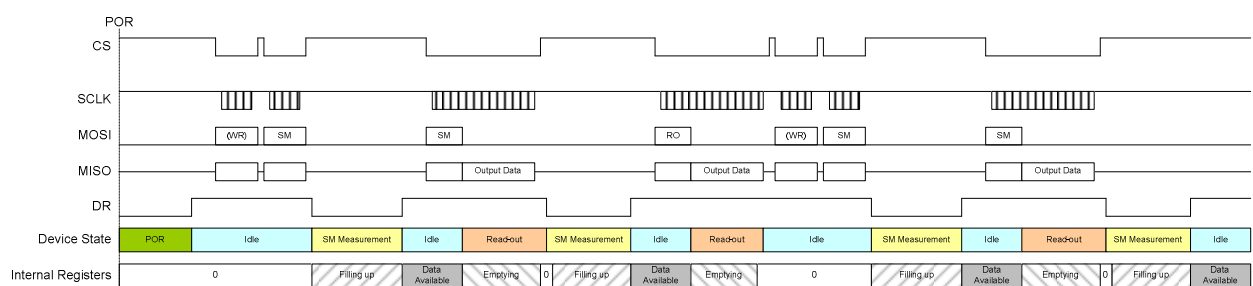

Figure 22: Global timing diagram with separate SM-RO and combined SM-RO together
Figure 22 shows a timing diagram wherein separate SM-RO cycles are mixed with combined SM-RO cycles. After the Power-On-Reset phase, a SM measurement cycle is started. Once the *DR* pin is high, the data can be read out. A SM command with extra clocks is used to combine the read-out and the start of the next measurement cycle. With the extra clocks, the data of the internal registers is transferred to the *MISO* pin. When the *CS* pin goes high, the next measurement cycle (SM) will be started.